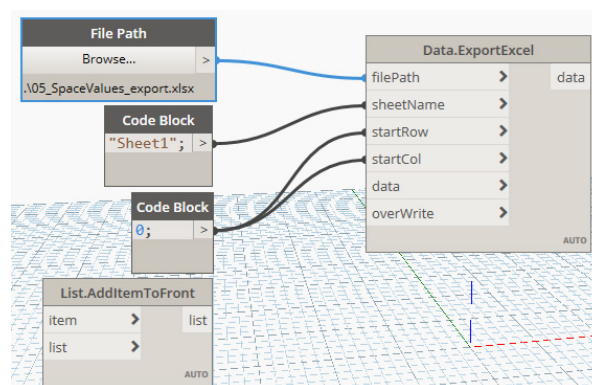

Figure 66
27. Wire this into the **filePath** input (see Figure 66).